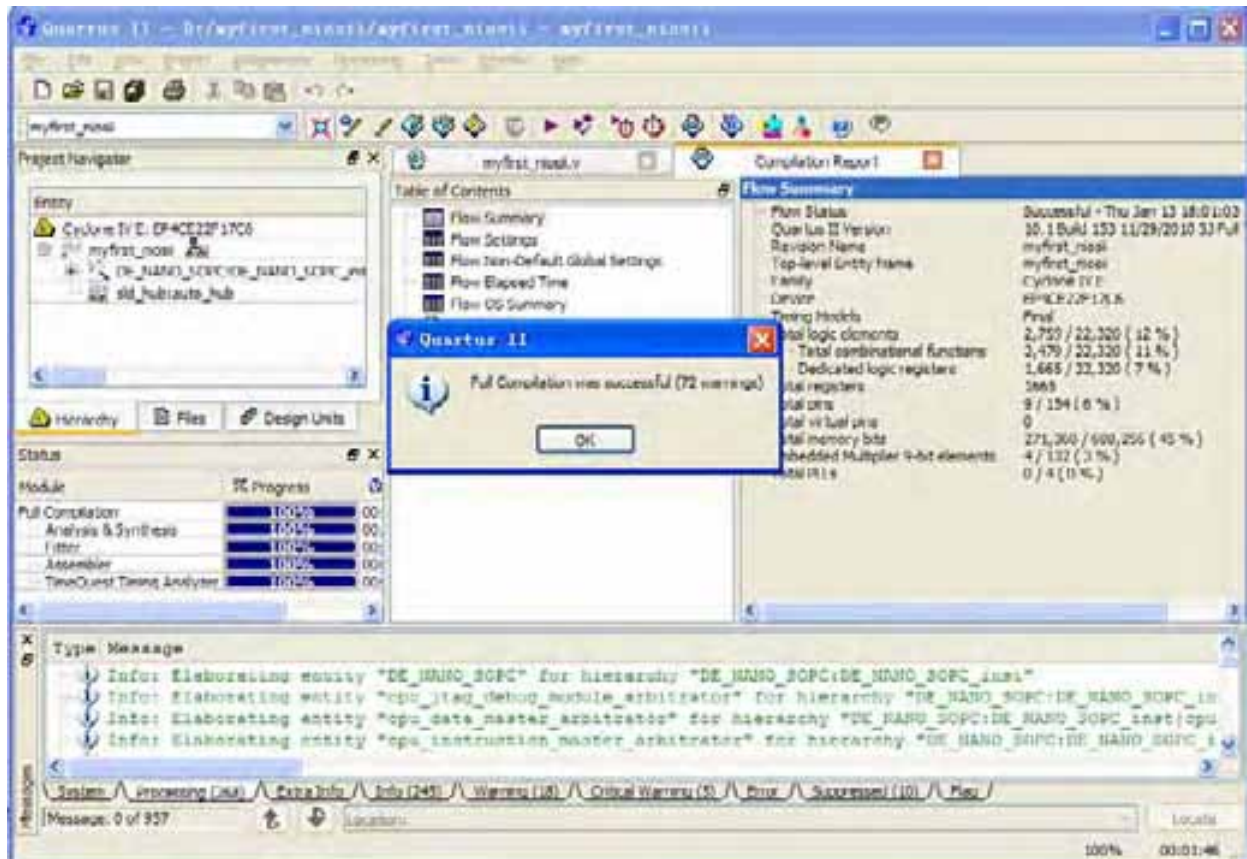

Figure 7-49 Compile project completely
37. A dialog box will appear upon successful completion of the compile, as shown in **Figure 7-49**.